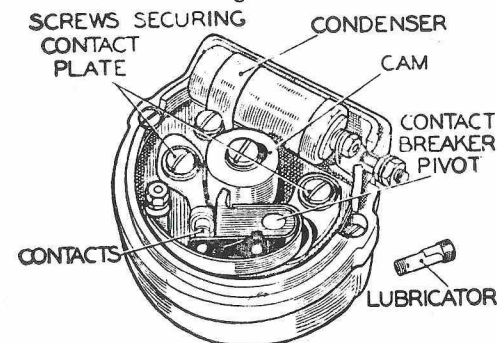

Fig. 12. Model DK type Contact Breaker
D.K. types (similar to Fig. 12)